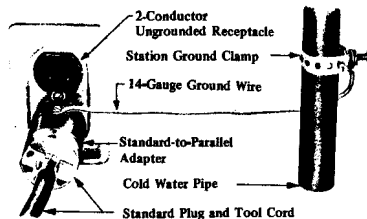

FIGURE 4. Ungrounded 2-conductor Receptacle.
3.05 The pigtail grounding terminal on adapters or attachment plugs should be connected to a suitable conductor as shown in Figure 4.
- b. Attach a ground wire to the green ground terminal on the plug or adapter and to the grounded object selected, making certain a good metallic connection is achieved at both ends. See Figure 4.